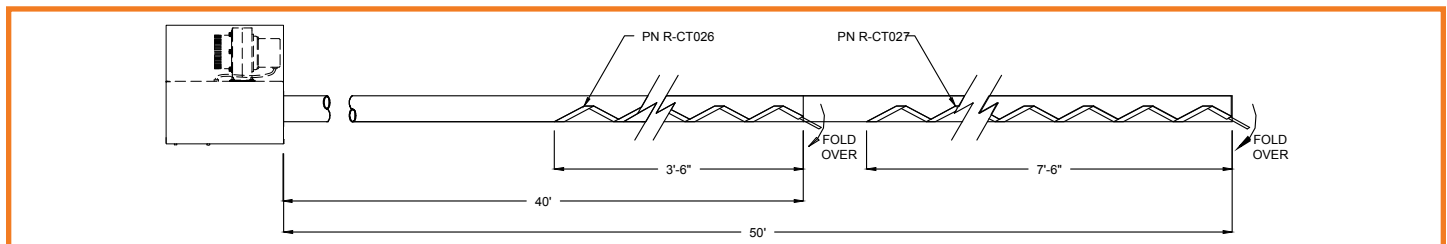

Figure 3: Baffle location for all ES/ESH-205, 50ft models ONLY (PN R-CT095 Baffle Kit)
- 205,000 BTU/Hr 50' heat exchanger with a 4' baffle at 40', and a 8' baffle at 50'. (See figure 3)